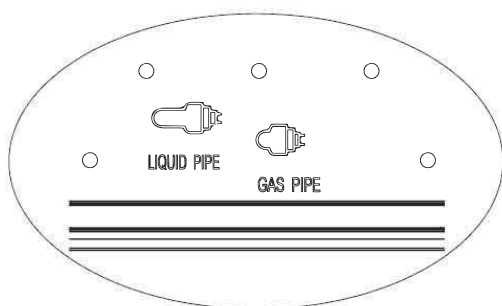
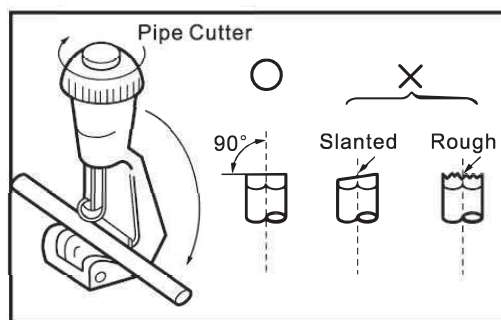

Fig. 4
Fig. 5
- Cut the liquid pipe and gas pipe to the right length according to the position mark on the wall mounting plate (Fig. 4). Ensure that the cut is flat (Fig. 5).